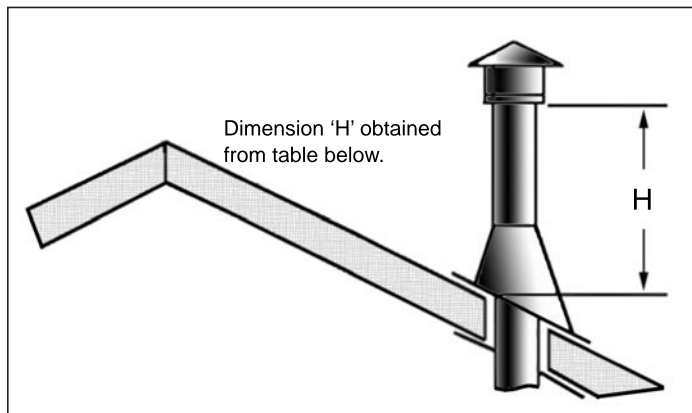

Figure 36: Height of Vertical Termination;
8. Continue to add pipe sections until the height of the vent cap meets the minimum code requirements. Refer to Figure 36 and Table 5. Note that for steep roof pitches, the vent height must be increased. In high wind conditions, nearby trees, adjoining roof lines, steep pitched roofs, and other similar factors can result in poor draft, or down drafting. In these cases, increasing the vent height may solve the problem.
Table 5: Minimum 'H' for Figure 36.